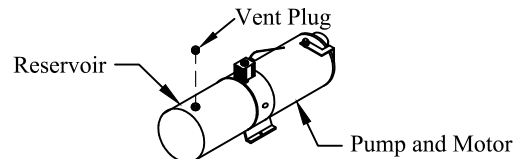

Figure 14: Vent plug.
7. **Install** the vent nut provided into the pump reservoir (Figure 14).